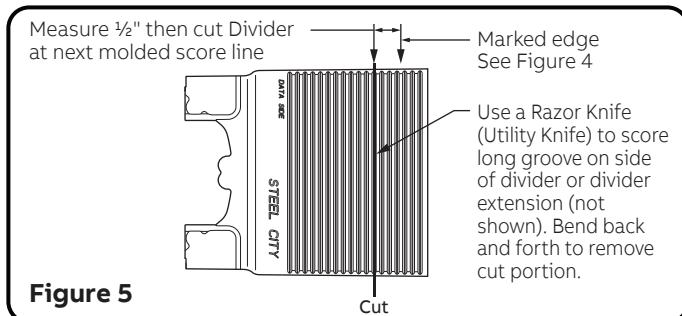
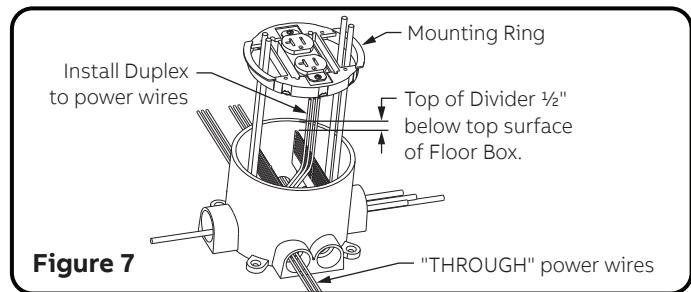

Figure 5
Figure 7
5. Remove the divider halves or divider extensions from the floor box. Make a second mark at 1/2" below or the next molded score line on the divider or divider extensions. Score (cut) the divider or divider extensions at the second mark and remove the cut portion, see Figure 5. **NOTE:** When reinserted in the floor box, the top of the divider assembly should be 1/2" to 9/16" from the top of the 68P floor box, see Figure 7.
7. Verify divider assembly is aligned with conduit direction. The divider assembly can be rotated a few degrees in either direction to align with conduit openings. Align mounting ring vertical walls with divider vertical walls and push (install) mounting ring onto top of the floor box (see Figure 7).